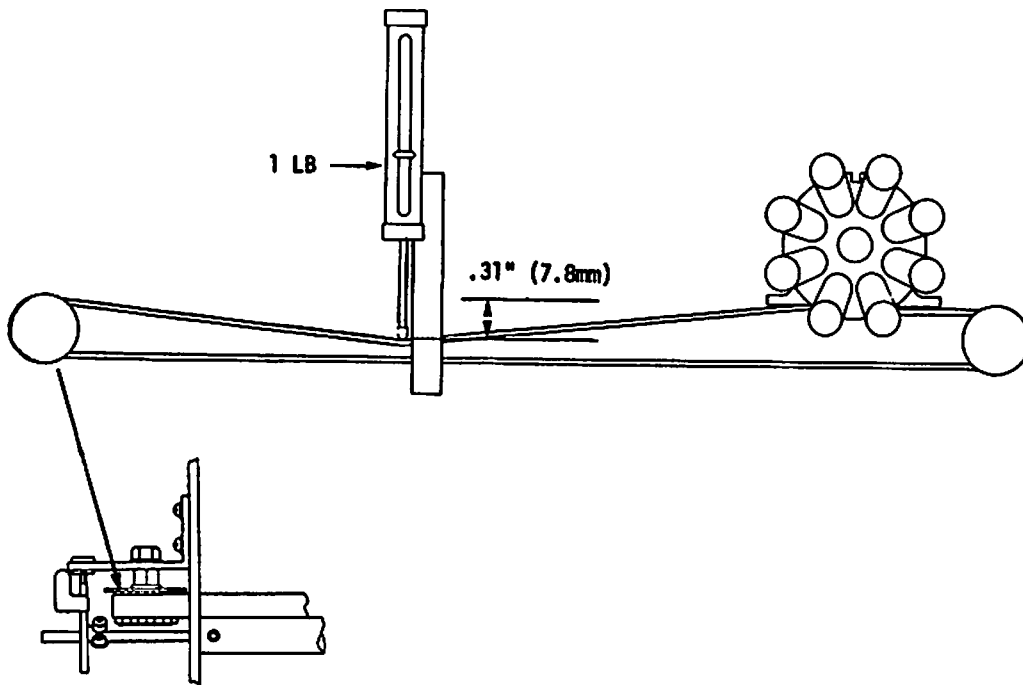

FIGURE 5-6 MAIN DRIVE BELT ADJUSTMENT
- 2) Using a spring gauge and scale, deflect the middle of the belt .31" or 5/16" (7.9 mm). The gauge should read 1 lb \pm 2 oz (453 grams \pm 57 grams). (Figure 5-6).